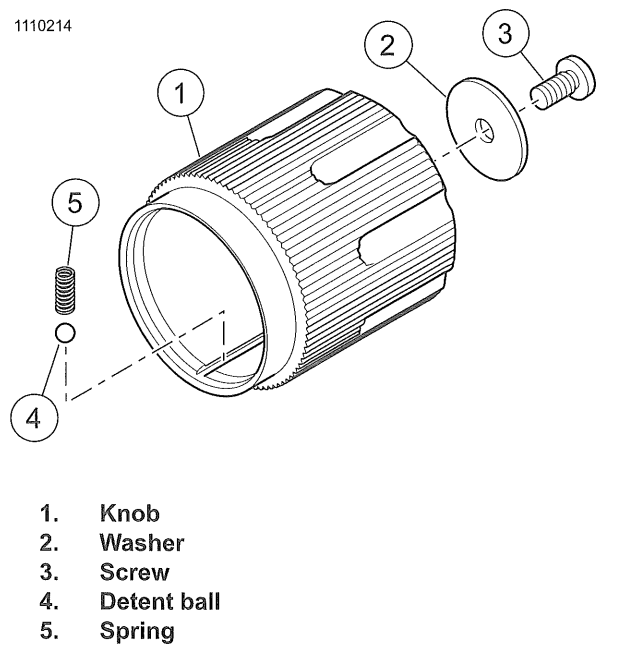

Figure 3-92. Rear Shock Adjuster Knob
1. See Figure 3-92. Remove shock adjuster knob (1).
- a. Remove screw (3) and washer (2).
- b. Hold a rag wrapped around the adjuster housing and knob to prevent loss of the detent ball (4) and spring (5). Carefully remove the knob.
1. See Figure 3-92. Install shock adjuster knob (1).